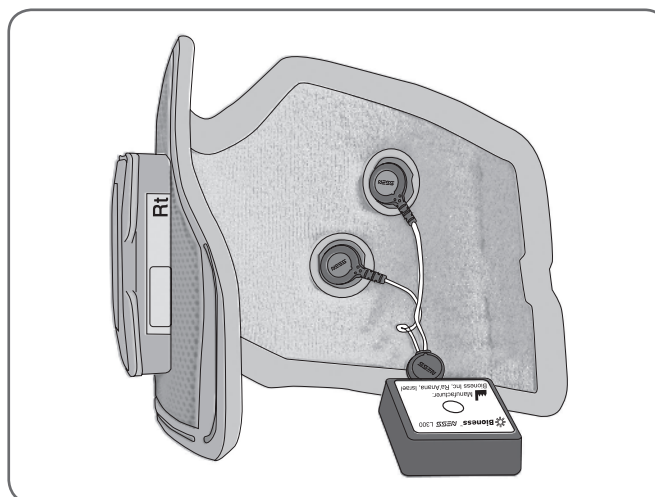

Figure 84: L300 Tester connected to the FS Cuff.
1. Connect the L300 Tester to the FS Cuff. See Figure 84.